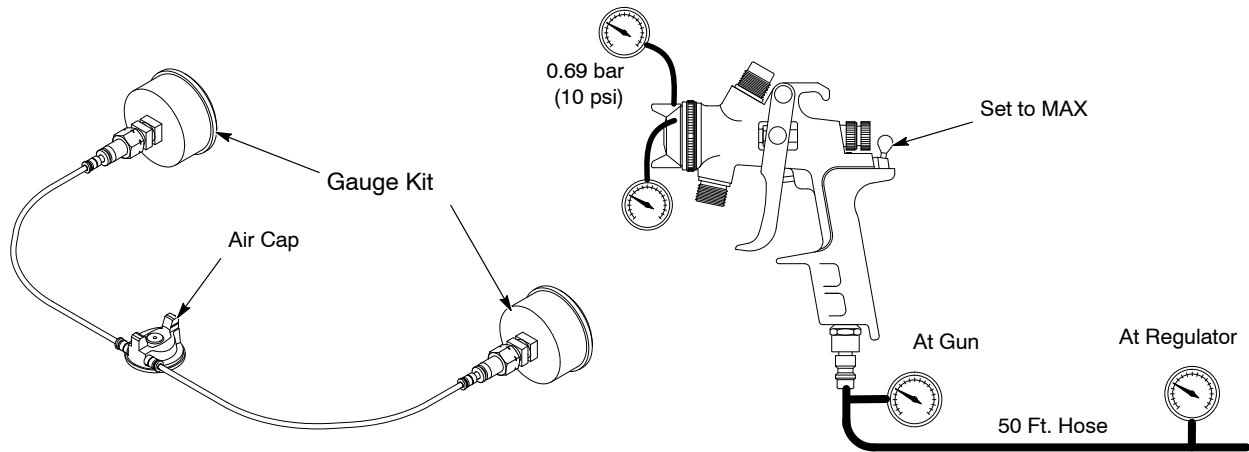

Figure 3 Compliance Air Cap and Gauge Kit Installation and Use
1. See Figure 3. Remove the paint cup from the gun so you do not spray paint during the test.